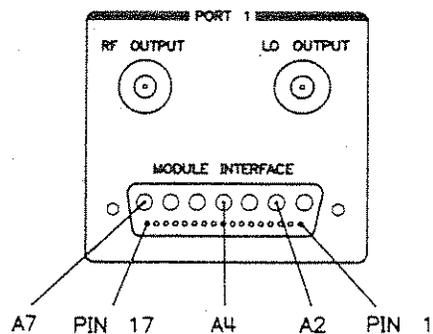
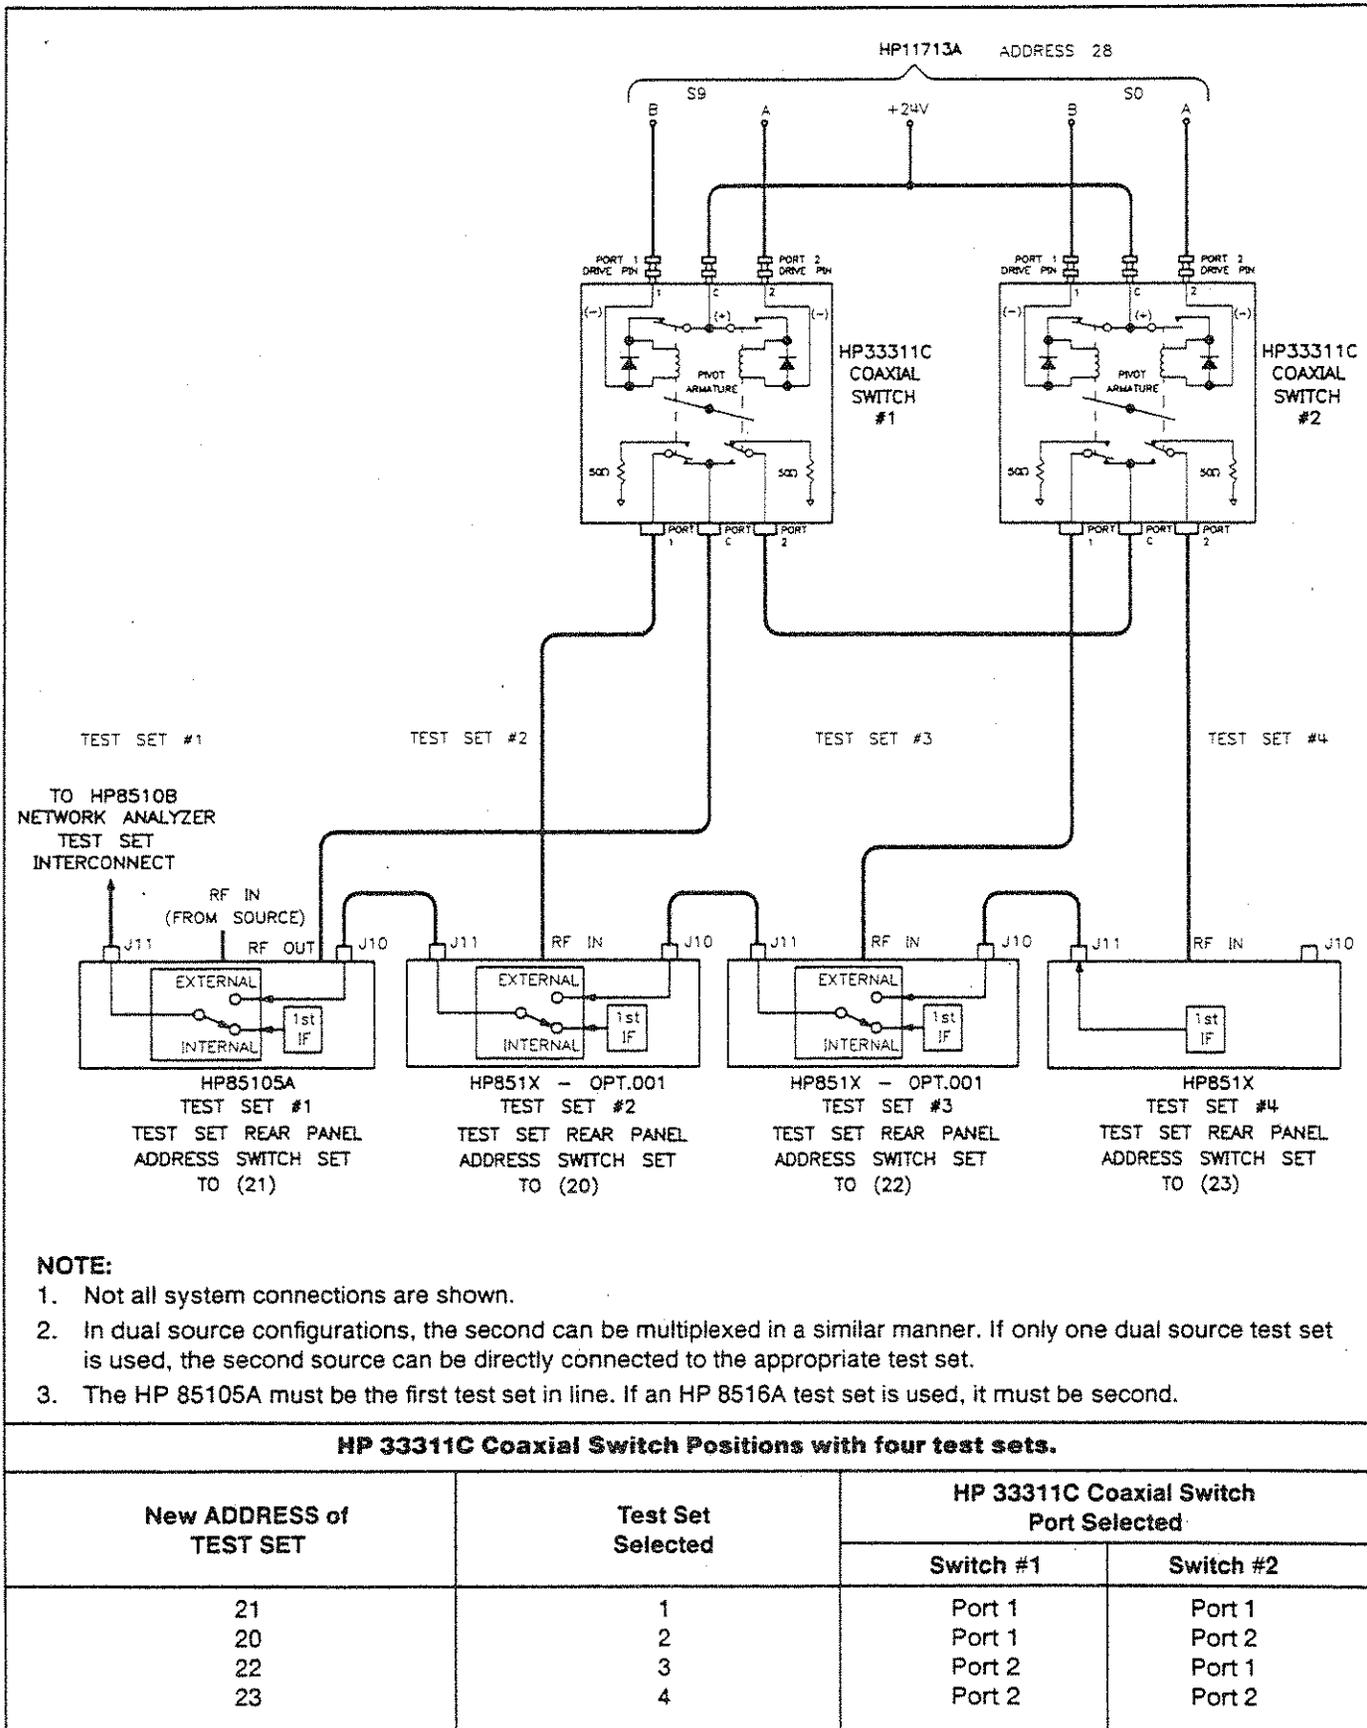

Figure 6-4. Module Interface Connections
Figure 6-5. RF and IF Switching with Four Test Sets
Option 001 for the HP 851X series test sets allows an HP 8510 to alternately control up to four coaxial test sets (Figure 6-5). The HP 85105A must be the first test set. While a measurement is proceeding on test set number 1, which is equipped with option 001, test device hookup can be accomplished on test set number 2, which does not need to be equipped with option 001, unless another test set is to be connected. When the measurement on test set number 1 is complete, then the HP 8510 can control test set number 2.
In a standard test set, the 20 MHz IF and control signals are applied directly to J11 TEST SET INTERCONNECT, which connects to the HP 8510. Option 001 adds a set of IF switches, control switches, and the J10 TEST SET INTERCONNECT connector. This allows the selection of 20 MHz test set IF signals. As shown in Figure 6-5, test set number 1 can apply its IF to the HP 8510 or it can switch to pass the IF from test set number 2 through the J10 TEST SET INTERCONNECT to the HP 8510.
Set each test set rear panel address switch to the address listed in Figure 6-5, if configuring three or four test sets. Use the supplied test set interconnect cable to connect test set number 1, J11 to the HP 8510. Use the supplied test set interconnect cable to connect test set number 2 J11 to test set number 1 J10. You may continue this test set "daisy chain" to include up to four test sets if the total length of all test set interconnect cables does not exceed 13 meters (about 40 feet). The last test set in the chain does not require option 001.
2. Check the HP 8510's expected test set address by pressing **LOCAL** **[TEST SET]**. This should match the address of the desired test set. If not, change the address. See Figure 6-5 for recommended test set addresses.
**RF Switch Driver Commands.** A related feature of the HP 8510 is that when the HP 8510 ADDRESS of TEST SET function is changed, a code sequence is automatically issued over the HP 8510 system bus to the device at the ADDRESS of RF SWITCH. In the recommended configuration, this device is an HP 11713A Attenuator/Switch Driver which in turn controls one or more HP 33311C Coaxial Switches. As shown in Figure 6-4, these switches are used to select which of the test sets receive the RF output of the network analyzer source. The exact command issued depends upon the new value of the ADDRESS of TEST SET function, also shown in Figure 6-5.